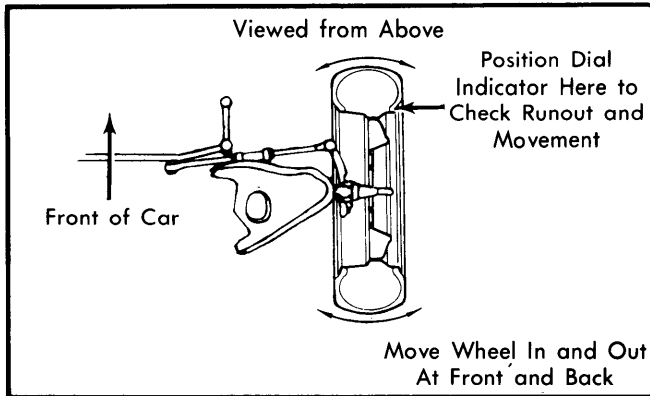

Fig. 1 Checking Steering Linkage
- Steering linkage and suspension must not have excessive looseness. Check for wear in tie rod ends and ball joints. Springs must not be sagging. Control arm and strut rod bushings must not have excessive play. See Fig. 1.